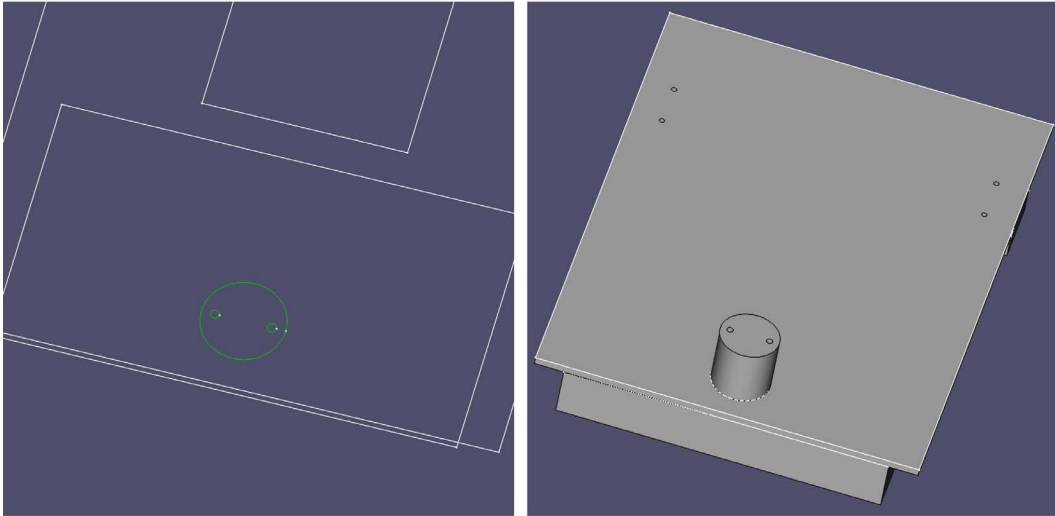

Figure 3.28 – Making a 3D caster
Figure 3.28 shows how we create a page for our drawing in **TechDraw**.
Choose the **TechDraw** workbench in the workbench selector, as the top of *Figure 3.28* shows. Then, proceed as follows:
3. This will add a new drawing to the **Model** tree. Rename this `CuttingDimensions`, as shown in *Figure 3.28*, left.